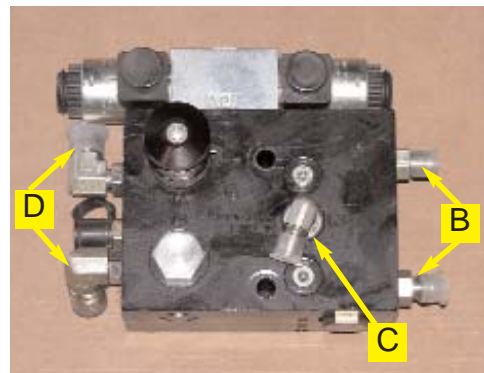

Figure 1a. Prepared Automated Steering Block.
- b. Install the small elbow adapter fitting (**C**) in the **LS** port and the larger elbow adapter fittings (**D**) in the **P** and **T** ports. (Figure 1a.)
- c. Install the straight adapter fittings (**B**) in the **A** and **B** ports. (Figure 1a.)